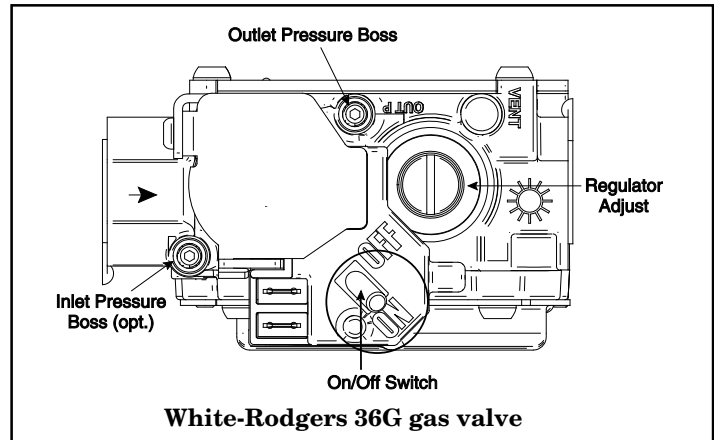
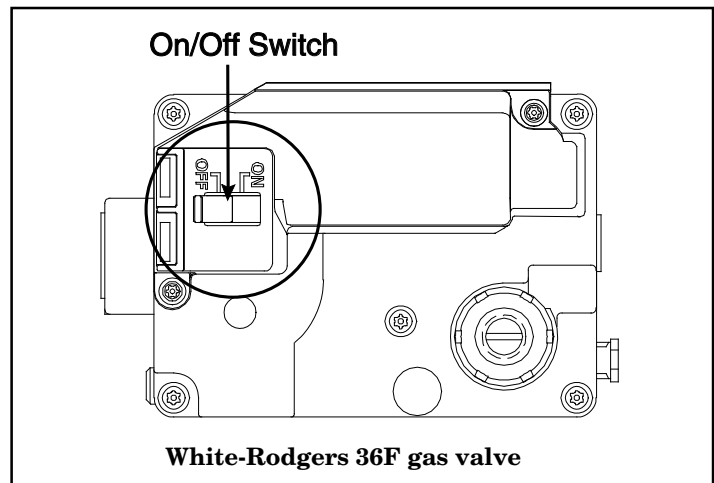

FIGURE 17
FIGURE 18
- b. Attach a manifold pressure gauge to the outlet pressure tap marked “OUT PRESS TAP” on White-Rodgers gas valve model 36F or boss marked “OUT P” on White-Rodgers gas valve model 36G. (See Figure 18 for White-Rodgers gas valve model 36F and Figure 17 for White-Rodgers gas valve model 36G.) For the gas valve model 36F, measurement requires removal of the plug and installation of a barbed fitting. Attach flexible tubing and a manometer to the barbed fitting.
For complete shutdown: Move the control switch on the main gas valve to the "OFF" position (See Figure 17 & 18). Disconnect the electrical supply to the unit.